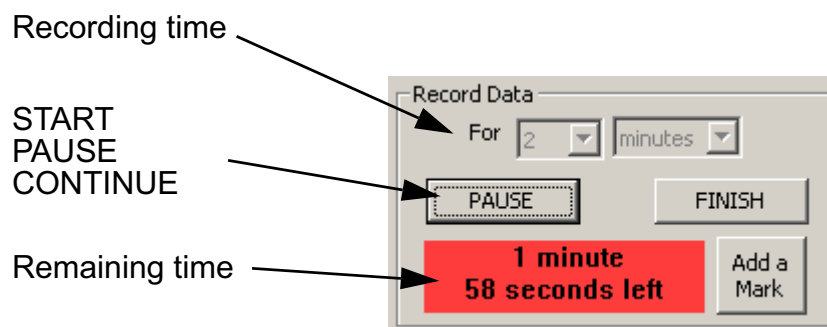

Figure 3.7: Recording Vibration Data
2. To start recording, click **START**. The **START** button changes to **PAUSE**. VibeView will record for the specified length of time. The remaining time is shown below the **PAUSE** button, with a red background to indicate that recording is in progress. See Figure 3.7.